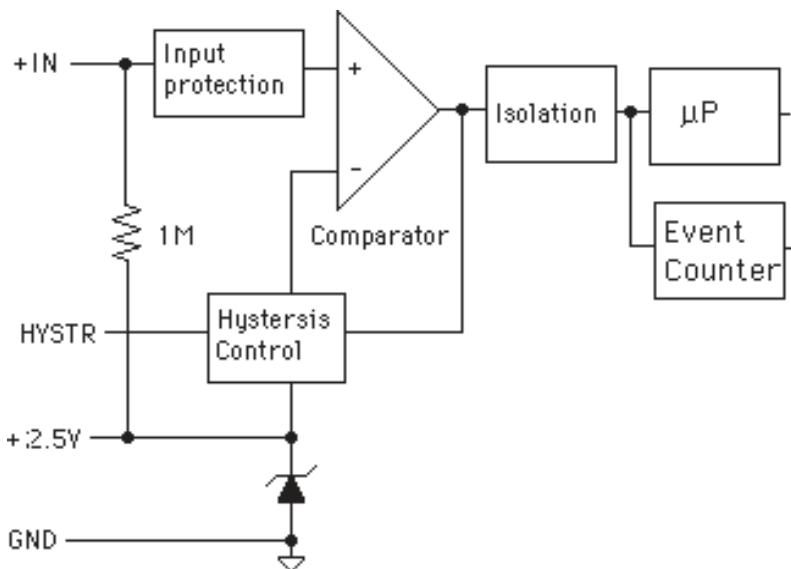

Figure B-5. Accumulator Block Diagram.
The Accumulator models are: D1631, D2631, D1632, D2632, D1641, D2641, D1642 and D2642 are designed for applications that require reading and accumulating pulse type information. They can accumulate the output of pulse type flow meters or keep track of power consumption by interfacing with a power meter. The Accumulator modules combine a frequency or pulse input circuit with an event counter. These modules allow a host computer to read both rate and total count of events. As shown in figure B-5 the input signal is passed through a comparator and the output of the comparator is sent to the microprocesor and to an event counter. Use the Read Data (RD) command to read the instantaneous value or rate of the frequency or pulse input. Use the Read Events (RE) command to read the total of events since the last time the event counter was cleared. Use the Events Clear (EC) command to read the total of events since the last time the event counter was cleared and clear the counter. The event counter will count up to 10 million transitions.